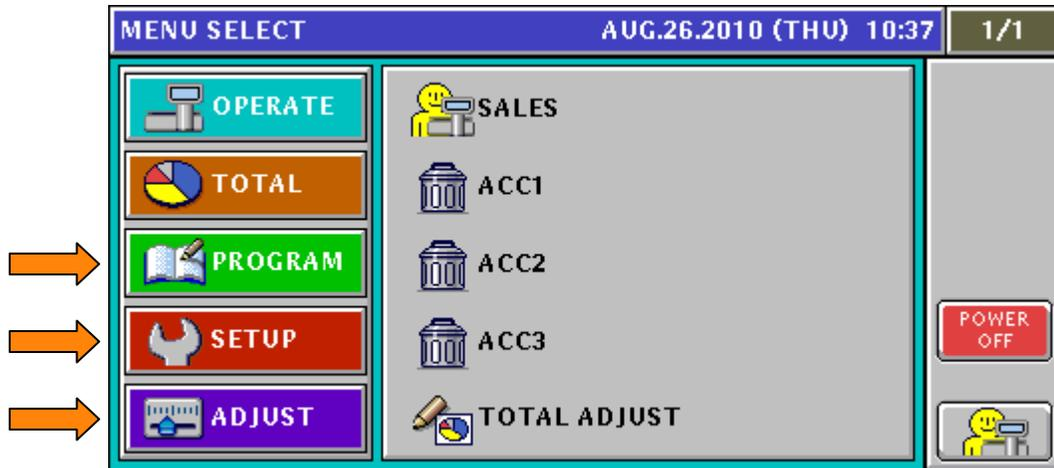

Figure 10.2. Uni-7 Main Menu
1. Select the desired menu on the left side of the screen. Example: PROGRAM, SETUP, or ADJUST. See Figure 10.2.